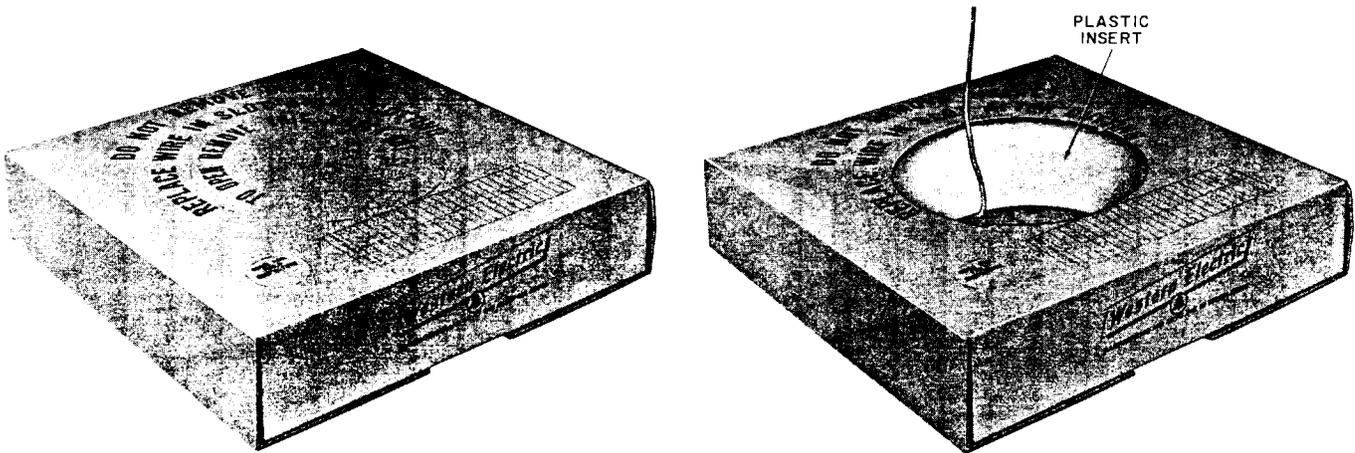

Fig. 1—Dispensing D Inside Wiring Cable or H Station Wire Using Conventional Carton/Dispenser
- (1) Remove large perforated knockout from carton.
- (2) Remove free end of wire from slot in bottom. Do not remove plastic insert.
- (3) Place carton on floor and feed wire from carton (Fig. 1).
- (4) Replace wire in slot (in bottom of carton) after cutting.